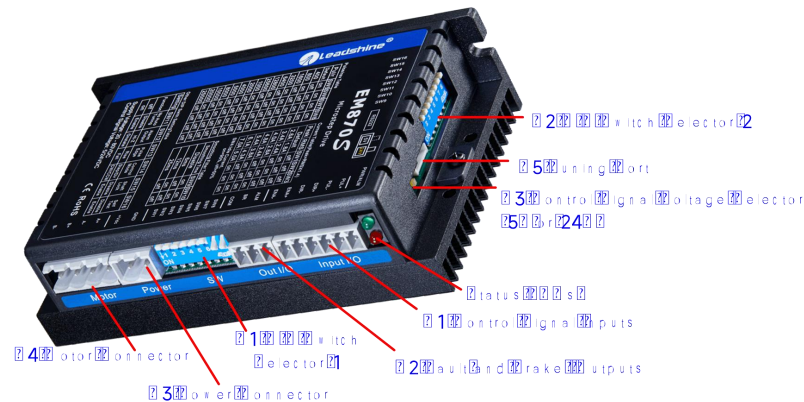

Figure 2 Connectors, DIP switches, and LED locations
| | (7) The factory setting of control signal voltage is 24V, must need to set S3 (figure 2) if it is 5V |
| | (4) The default control signal voltage is 24V, to set S3 (figure 2) if it is 5V |
The DM870 can accept differential or single-ended control signals (pulse, direction, and enable) in open-collector or PNP connection through the P1 connector (figure 2). It is recommend to add an EMI line filter between the power supply and the drive to increase noise immunity for the drive in interference environments.
The first 8-bit is located on the side (DIP switch selector 1 in Figure 2) and used to configure settings of micro step resolution, output current, and motor standstill current as shown below, the factory setting of SW1-SW8 is **OFF, OFF, OFF, OFF, OFF, OFF, ON, ON**.